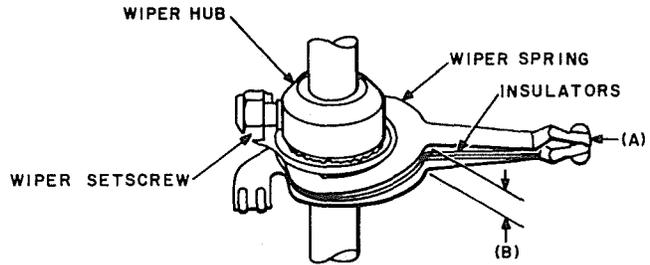

Fig. 1—Bank Wiper
2.06 Wiper Spring Forming: Fig. 1(B)—The wiper springs shall be approximately 1/8 inch apart where the straight portion of the spring forms into the hub end. From that point, the two springs shall converge in approximately straight lines to the free end of the insulator.
- (a) **Single Conductor Wipers** (197-type switches only): Fig. 1(A)
2.05 Vertical Alignment of Wiper Springs: Fig. 1(A)—As viewed facing the end of the wiper springs, the wiper spring tips shall be within 0.012 inch of vertical alignment.
- (b) **Two Conductor Wipers:** Fig. 1(A)—The separation between the tip ends of the springs of all two conductor wipers when not contacting the banks shall be